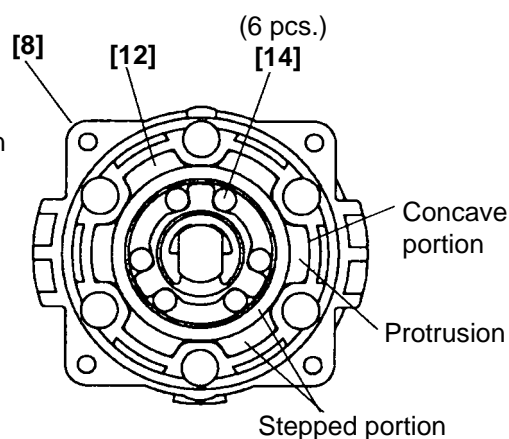

Fig. 5
(a) Mount the Lock Ring **[12]** to the Front Case **[8]** so that the protrusion of the Lock Ring **[12]** aligns with the concave portion of the Front Case **[8]** (see Fig. 5). At this time, mount the Lock Ring **[12]** so that the stepped protrusion faces forward.
(b) Mount Needle Roller (C) Set (6 pcs.) **[14]** (see Fig. 5).